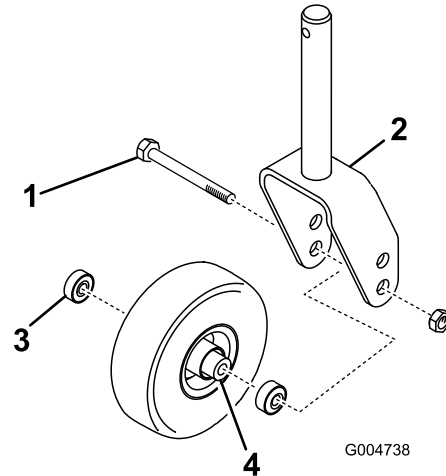
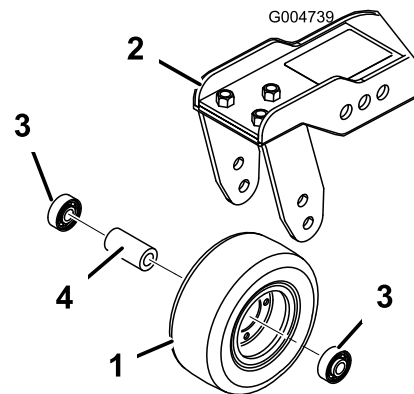

Figure 126
Figure 127
1. Remove the locknut from the bolt holding the caster-wheel assembly between the caster fork (Figure 126) or the caster-pivot arm (Figure 127).
2. Remove the bearing from the wheel hub and allow the bearing spacer to fall out (Figure 126 and Figure 127).